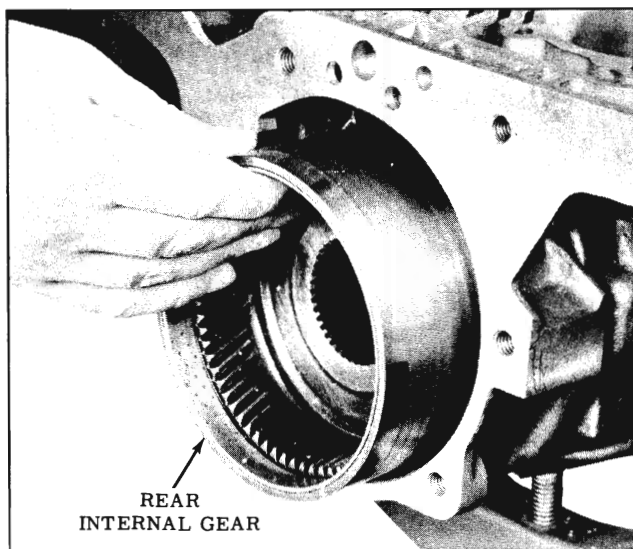

Fig. 3-248 Removing Rear Internal Gear
49. Remove the rear internal gear. (Fig. 3-248)